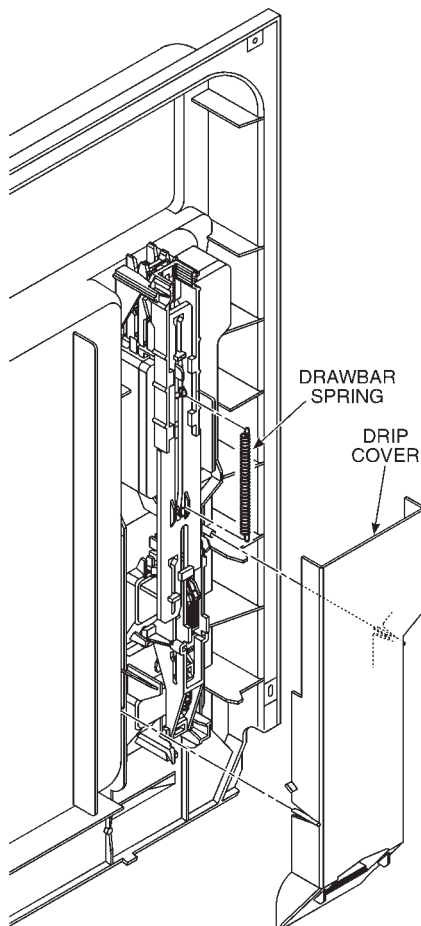

Fig. 1-26
1. Remove the drawbar spring. (Fig. 1-26)
12. Install the drawbar spring. (*Fig. 1-26*)